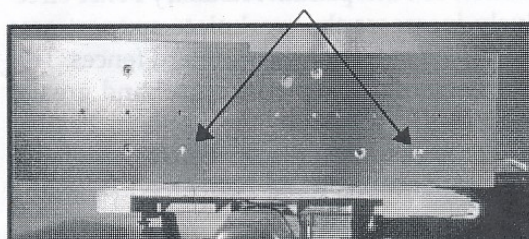

Figure 3
3. For Mark V 500 owners, use 2-3/4" long screws (2) and refer to Figure 3.